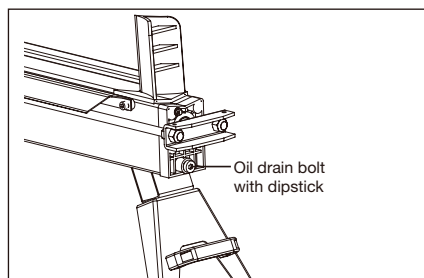

Fig. 7
2. Unscrew to remove the oil drain bolt with dipstick (Fig. 7).